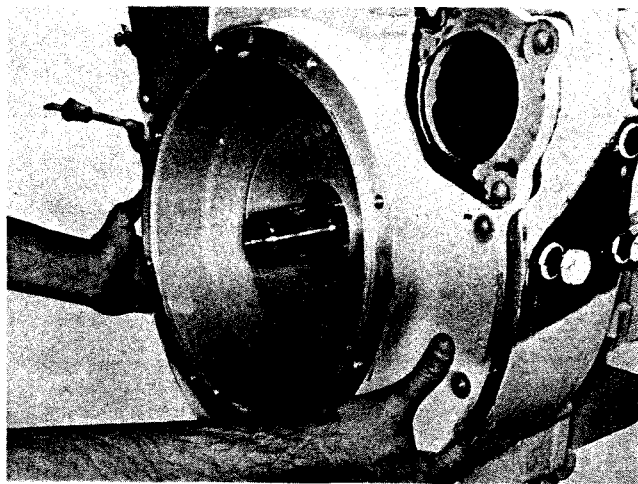

Fig. 5-5, (V22003). Removing oil dam assembly
7. Remove capscrews, lockwashers and flatwashers securing oil dam assembly to flywheel housing, Fig. 5-5, lift off oil dam and discard gasket.